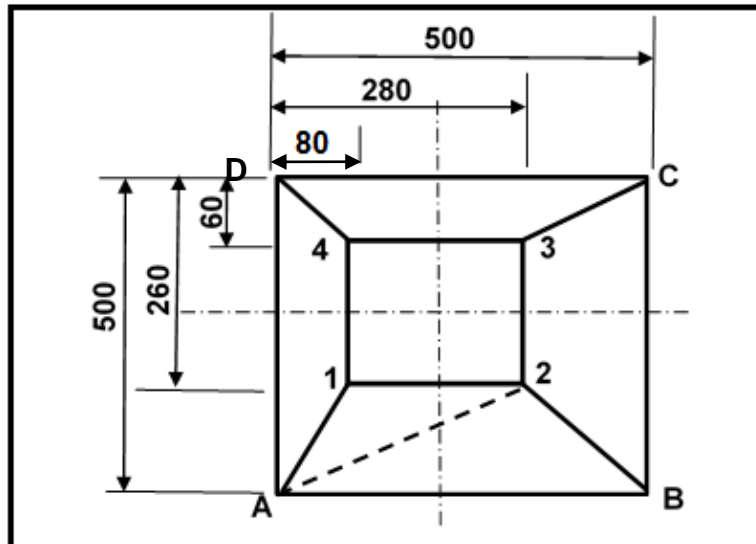

FIGURE 11.1
- 11.1 FIGURE 11.1 shows a square-to-square off-centre hopper with a vertical height of 400 mm. Answer the questions that follow.